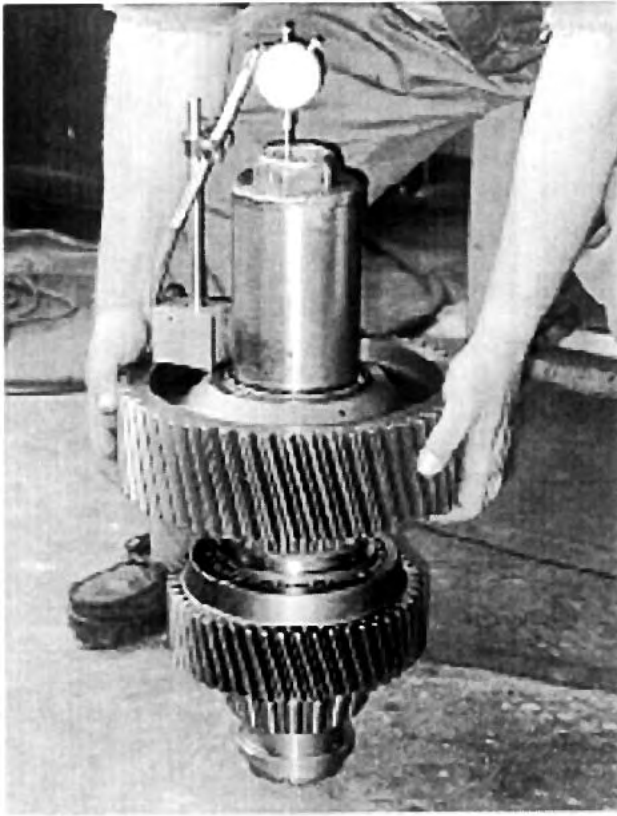

Fig. 35
1. To aid in proper reassembly, use special tool # 866 750 and note the end float of the underdrive gear assembly before disassembly. See Fig. 35.